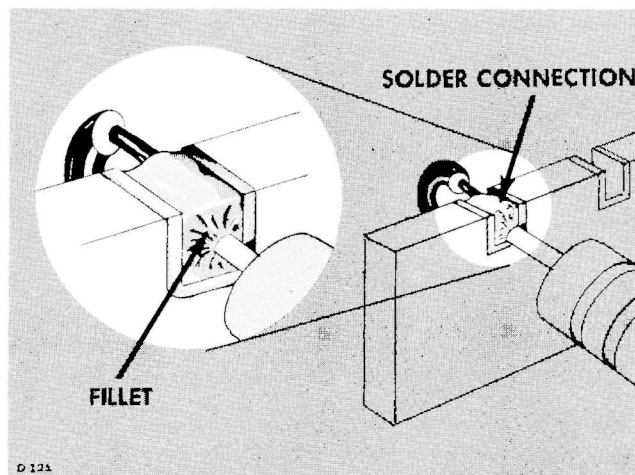
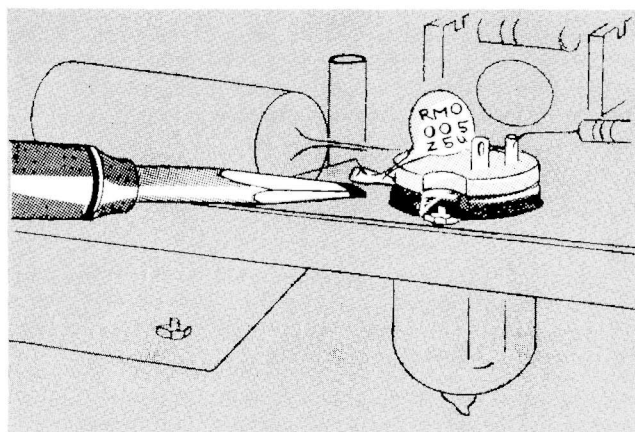

Fig. 4-3. A slight fillet of solder is formed around the wire when heat is applied correctly.
Fig. 4-4. Soldering to a terminal. Note the slight fillet of solder-exaggerated for clarity-formed around the wire.
6. Do not attempt to fill the notch on the strip with solder; instead, apply only enough solder to cover the wires adequately, and to form a slight fillet on the wire as shown in Fig. 4-3.
In soldering to metal terminals (for example, pins on a tube socket) a slightly different technique should be employed. Prepare the iron as outlined above, but tin with ordinary tin-lead solder. Apply the iron to the part to be soldered as shown in Fig. 4-4. Use only enough heat to allow the solder to flow freely along the wire so that a slight fillet will be formed as shown in Fig. 4-3.